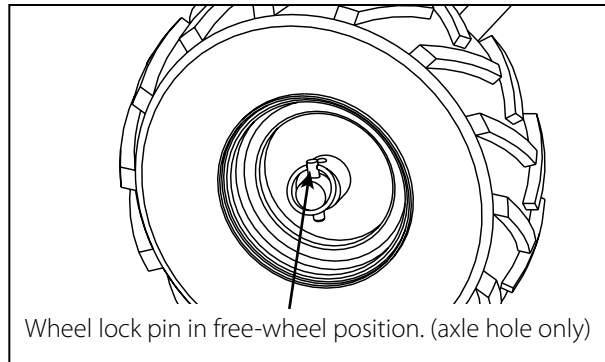

Figure 2
1. Remove lock pin. Align hole in axle with hole in wheel hub. (SEE FIGURE 2)